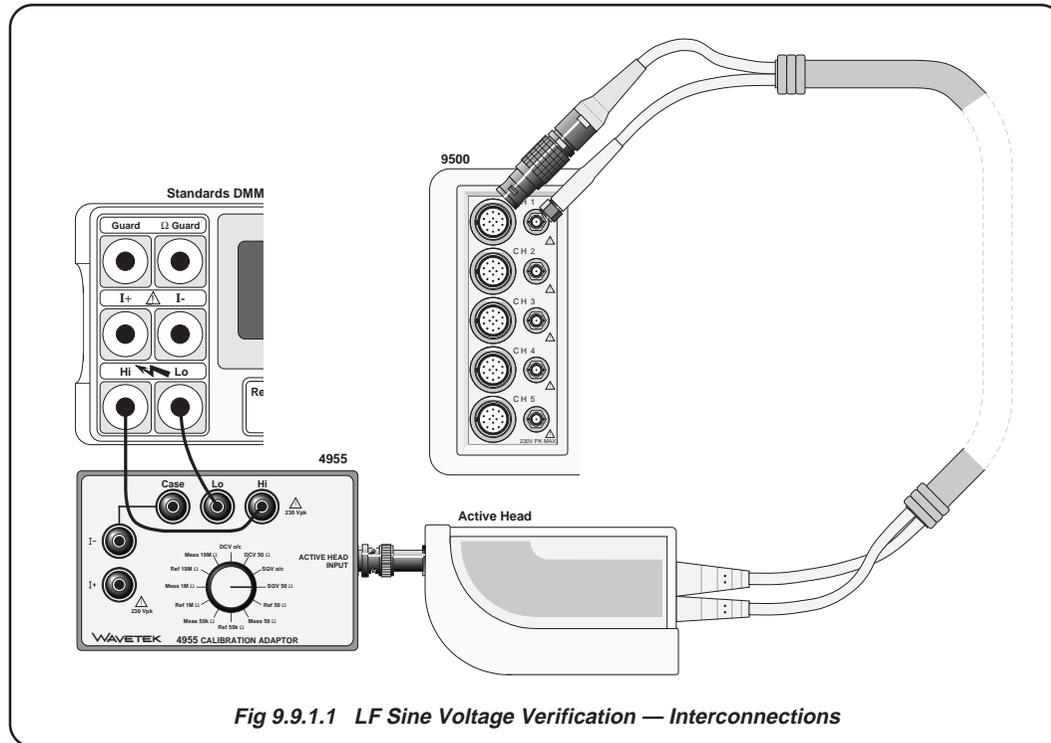

Fig 9.9.1.1 LF Sine Voltage Verification — Interconnections
- 1. Connections** Ensure that the 9500 is connected to the DMM as shown in *Fig. 9.9.1.1*, or via a similar BNC-4mm adaptor, and that both instruments are powered on and warmed up.